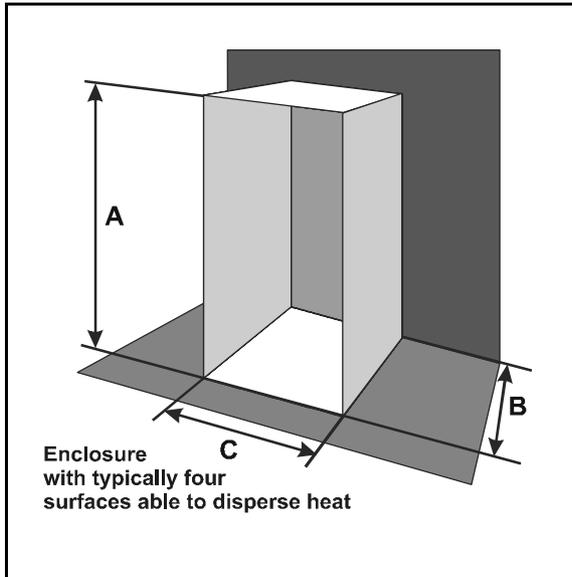

Figure 5-2
- The enclosure is to stand on the floor and against a wall, so that its base and back surfaces cannot be considered to play any part in the cooling process. The effective heat-conducting area A_e is provided by the top, front, and two sides only, Figure 5-2.
The effective heat-conducting area of an enclosure as illustrated in Figure 5-2, located on the floor and against one wall is: